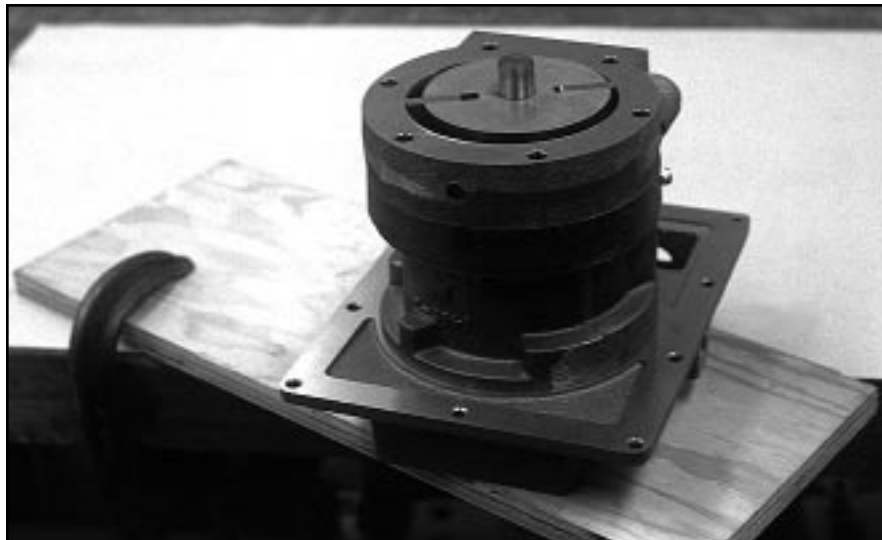

Figure 8 - Sliding Second Center Plate
9. Place two keys (62) in the shaft keyways and slide the exhaust rotor (31) onto shaft and against the center plates. The face of the rotor which has two diametrically opposed oval recesses must face the center plates.
10. Insert the vane spring holder pin (34) through the rotor and shaft and mount two new vane springs (32). Place the two vanes (33) on the springs and pin, in the vane slots, slide the vanes in and out of slots to insure freedom from binding and check that vanes are flush with surface of the rotor.
11. Place the exhaust stator ring (30) over the rotor, with the flat machined edge to the far side and the exhaust port in this surface to the far right (see Figure 8). Hold the vanes together with the fingers as the stator ring is mounted, to prevent scratching of the inner bore. The surface of the rotor should be slightly below the face of the stator, as felt by a finger nail. Oil the inner surface of stator ring, vane slots, shaft hole and rotor with DUOSEAL® Pump Oil.
12. Mount the exhaust stage end plate (29) on the exhaust stator, machined face down, and with the slot in the shaft hole to the far side. Insert six hex head cap screws (24) with washers (23) and thread into the exhaust stator uniformly, leaving a slight play between the parts.